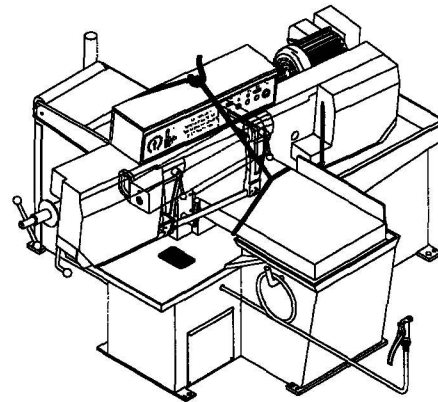

Fig. 1
2. **Always** keep proper footing & balance while moving this machine, and only use a heavy duty of fiber belt to lift the machine as per Fig. 1.
- (1) **Always** Keep proper footing & balance while moving this 1800 lbs machine. And only use heavy-duty fiber belt to lift the machine as per Fig.1
- (2) **Finish** removing this wooden case/crate from the machine. Unbolt the machine from the crate bottom.
- (3) **Position** & tighten 4 bolts into base holes properly after machine in balance.
- (4) **Turn off** the power before wiring & be sure machine is in proper grounding. Overload & circuit breaker is recommended for safety wiring.
- (5) **Keep** machine always out from sun, dust, wet, raining area.
- (1) Your machine has been coated with a heavy grease to protect it in shipping. This coating should be completely removed before operating the machine. Commercial degreaser, kerosene or similar solvent may be used to remove the grease from the machine, but avoid getting solvent on belts or other rubber parts.
- (2) After cleaning, coat all bright work with a light lubricant. Lubricate all points in Fig 1. with a medium consistency machine oil.